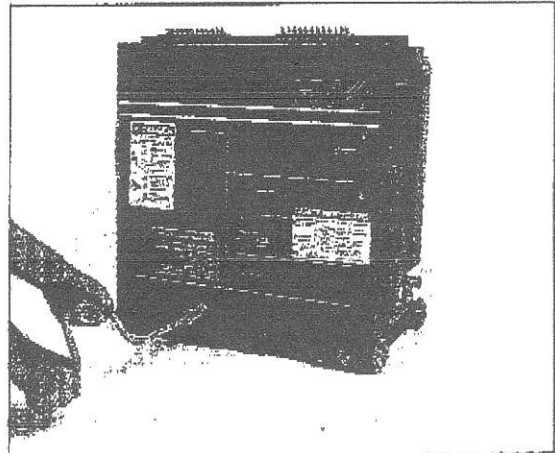

Fig. 28 Turning Racking Handle
- 4) Turn the handle clockwise (Fig. 28). The circuit breaker will move inward.